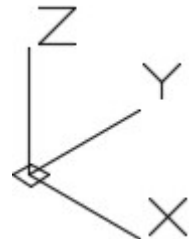

Figure 6-1
5. In Figure 6-1, what does the small square indicate? Choose the BEST answer.